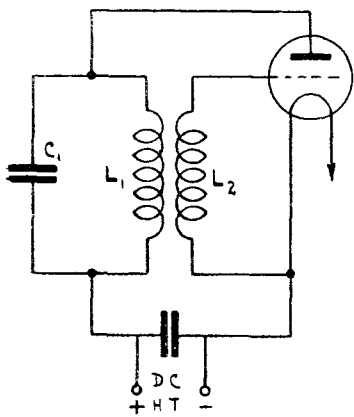
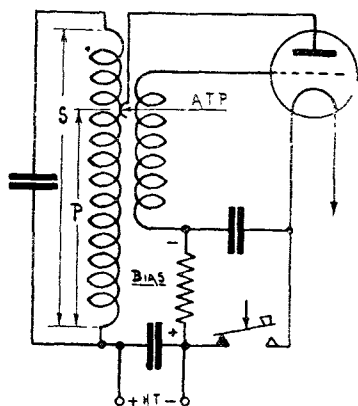
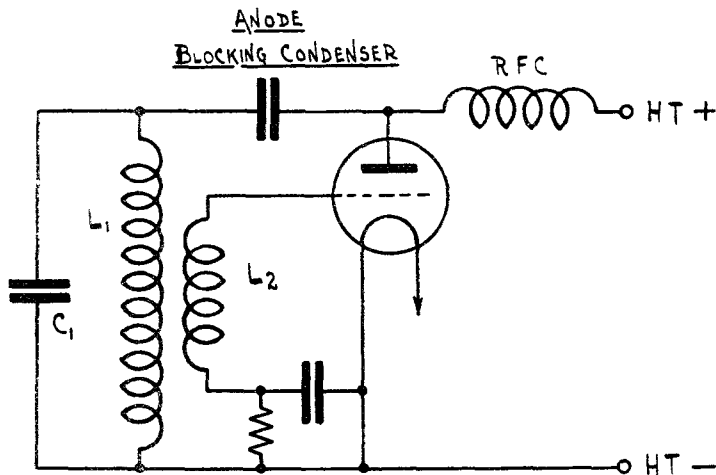

FIG. 51.—Simple oscillator.
FIG. 53.—Practical oscillator for L.F.
FIG. 57.—Parallel fed oscillator.
(b) In fig. 51, L_1 , C_1 , is an oscillatory circuit forming the anode load of the self-excited R.F. amplifier valve, and L_2 is the grid coil coupled to L_1 . In order to *commence* oscillations, C_1 must be charged. As soon as the H.T. circuit is switched on, the anode current rises, and the induced E.M.F. which it produces across L_1 will charge the condenser. The resultant oscillation will be feeble and would normally soon die away owing to the resistance of L_1 , etc.; as L_2 is coupled to L_1 , however, voltages will be induced in L_2 , and these will be applied to grid and filament of the valve. The grid/filament voltage now fluctuates at the same frequency as the oscillation in L_1 , C_1 , and this voltage will cause the anode current to vary through L_1 . This current will assist the oscillatory current in L_1 , C_1 , and oscillations will be maintained if the above conditions are fulfilled.
2. Practical Circuits.—The simple valve oscillator circuit of fig. 51 is similar to Meissner's valve oscillator, which also employed mutual inductance for coupling between anode and grid circuits; another variation is shown in fig. 36. The circuit of fig. 51 is insufficient for modern requirements, and a practical circuit is shown in fig. 53.
3. Supply or "Feed" Methods.—All the circuits of figs. 51 to 56 are "series fed", i.e. the H.T. current passes through the oscillatory circuit, which is, therefore, at a high D.C. potential. If the "L.C." circuit is in parallel with the valve and the H.T. supply, as at fig. 57, the oscillator is said to be "parallel" or "shunt fed". A "blocking" condenser and R.F. choke are necessary in fig. 57, the condenser to prevent L_1 from short circuiting the D.C. supply, and the choke to prevent the low impedance of the D.C. supply short circuiting $L_1 C_1$. "Parallel feed" is not used to any extent in R.A.F. sets.